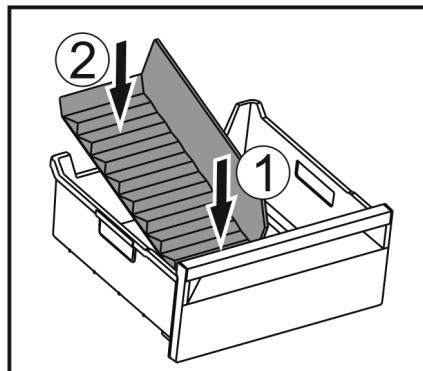

Fig. 145
- ▶ Insert the front part of the ice compartment divider. Fig. 145 (1)
- ▶ Lower the rear part of the ice compartment divider to the drawer bottom. Fig. 145 (2)